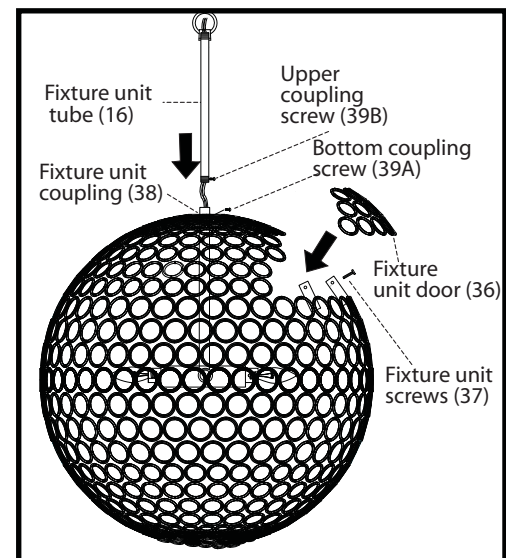

FIG. 4
Step 5: Slip electrical and ground wire through fixture unit tube (16). Screw fixture unit tube (16) into fixture unit coupling (38) and tighten with upper coupling screw (39B). Install light bulbs. Screw fixture unit door (36) back onto fixture unit (14) and tighten using the fixture unit screws (37). FIG. 4